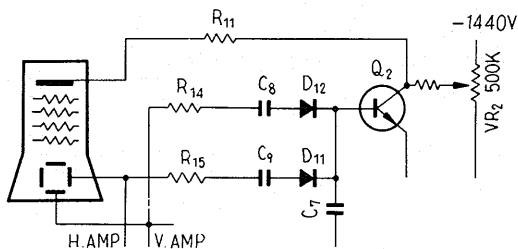

Fig. 8
6.5 SPOT KILLER CIRCUIT (Fig. 8)
The purpose of this circuit is to protect the CRT's fluorescent screen when there is no or almost no deflection, i.e. when the image on the screen is a spot or a straight line. Basically, this is done by a switching transistor inserted in the CRT cathode circuit; switching is performed by the V and/or H input signals to the scope in the following manner. Fig. 8 shows the simplified circuit diagram. The switching transistor Q2, is connected with its base to both the vertical and horizontal deflection plates through diodes D11, D12, capacitors C8, C9 (which isolate the transistor from the high DC voltage at the deflection plates) and through resistors R14, R15. The